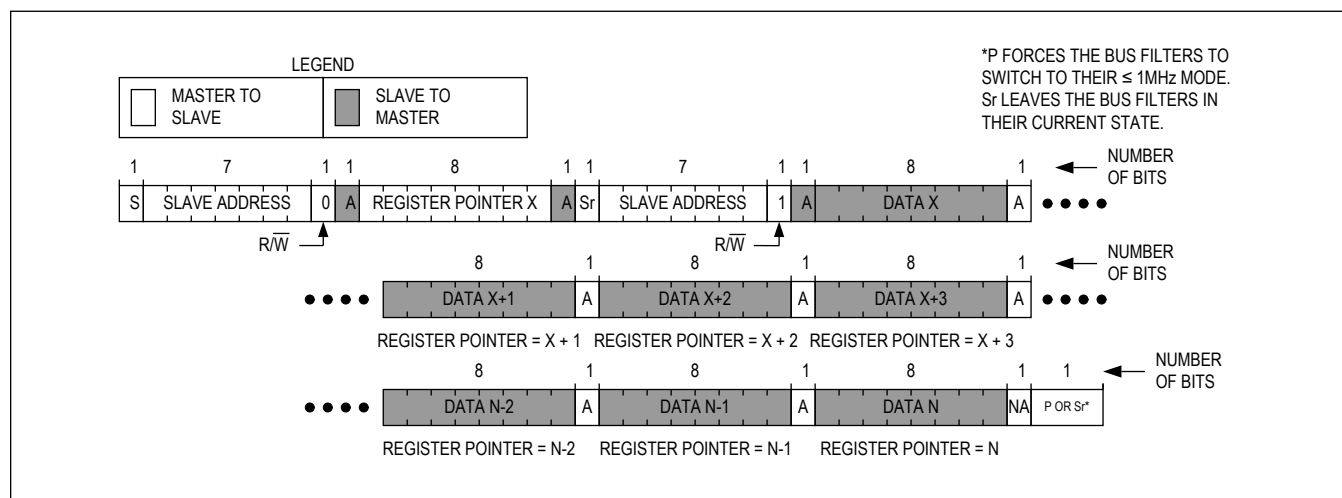

Figure 26. Reading Continuously from Sequential Registers X to N
Figure 26 shows the protocol for reading from sequential registers. This protocol is similar to the read-byte protocol except the master issues an acknowledge to signal the slave that it wants more data. When the master has all the data it requires, it issues a not acknowledge (nA) and a stop (P) to end the transmission. The continuous read from sequential registers protocol is as follows:
1. The master sends a start command (S).
3. The addressed slave asserts an acknowledge (A) by pulling SDA low.
10. The master issues an acknowledge (A) signaling the slave that it wishes to receive more data.